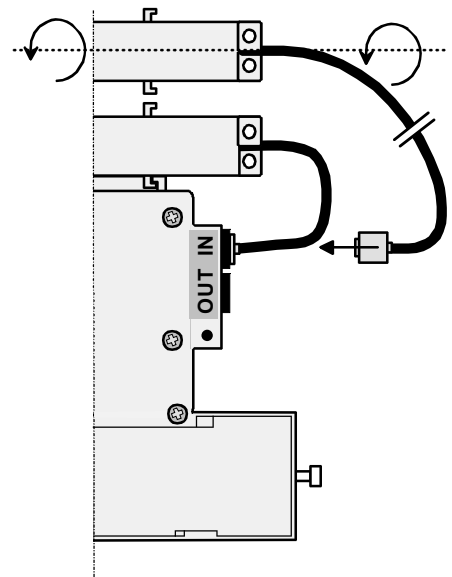

Fig. 7
- At bad reception push the antenna backwards from the fixing device and turn it round its own axle (Fig. 7). This will change the orientation of about 40°.
Instead of using an antenna, time can be read-in from a serial telegram. By means of an interface IF 494 a serial telegram can be transmitted to the movements BU 192 or QU 192. The interface connection (**IN** plug) is identical with the antenna connection (Fig. 7).